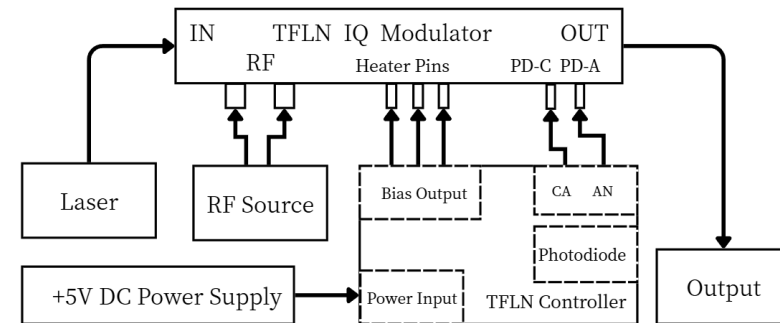

Figure 3 System diagram with the modulator's MPD
Make sure the maximum current output of modulator's built-in photodiode (PD) is within the controller's feedback input current range. See Figure 3 for Complete connection. Connect controller's AN and CA pins to modulator's MPD-A and MPD-C respectively. The controller's photodiode should remain unconnected.